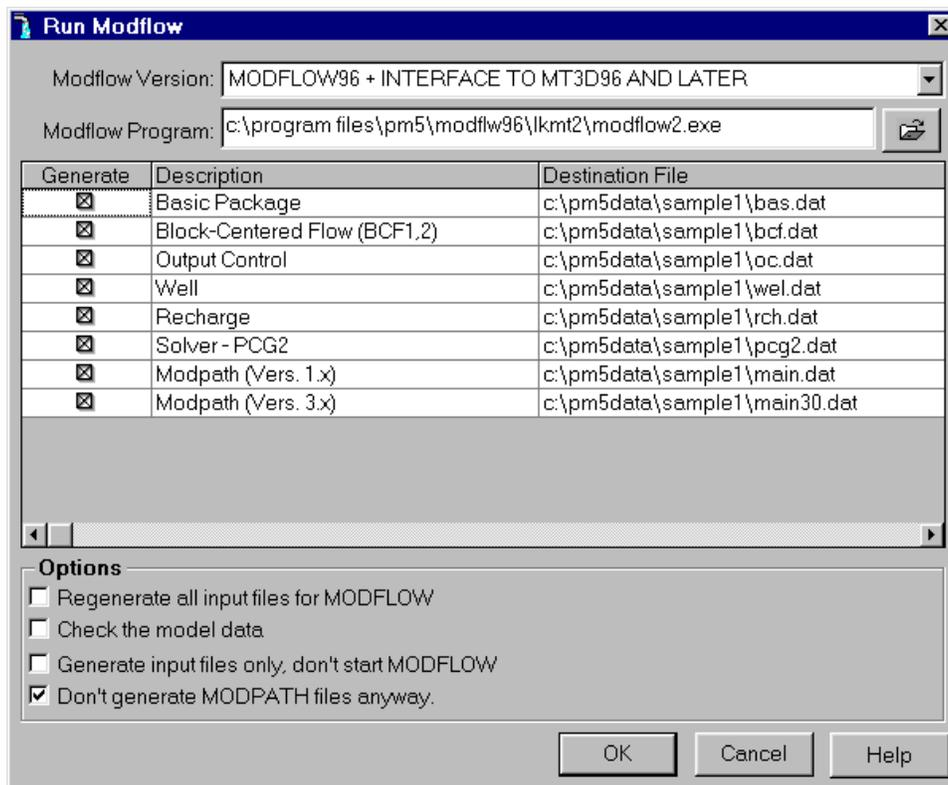

Fig. 1.7. The Run Modflow dialog box
1. Select *Models / MODFLOW / Run*: The Run Modflow dialog box appears (Fig. 1.7).